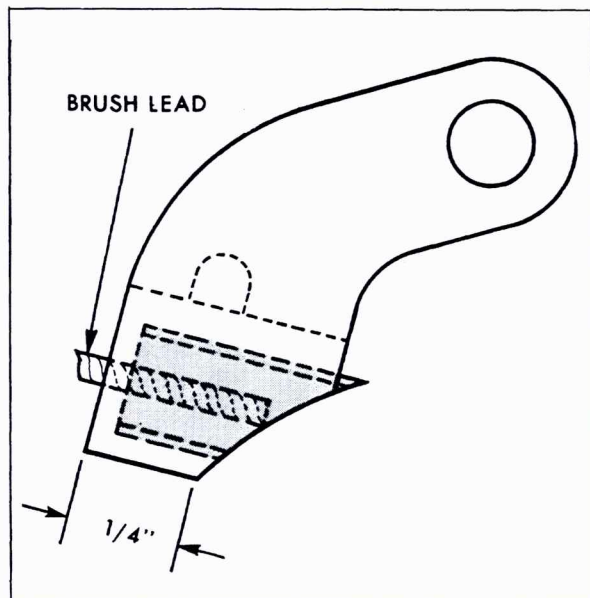

Fig. 6-41 Maximum Brush Wear
2. Inspect brushes for excessive wear and brush pigtailed for signs of fraying, Fig. 6-41.
The brushes may be allowed to wear until part of the holder itself is actually worn away as shown in Fig. 6-41. This will not damage the slip rings or affect performance. The brushes should not be allowed to wear beyond the 1/4 inch dimension shown in Fig. 6-41. Replacement is accomplished by installing a new holder, brush, lead, and terminal assembly. Note that there are both right and left hand holders and springs. Both brush holders should be to the right of their pivot pin as viewed from the outside of the slip ring end frame.